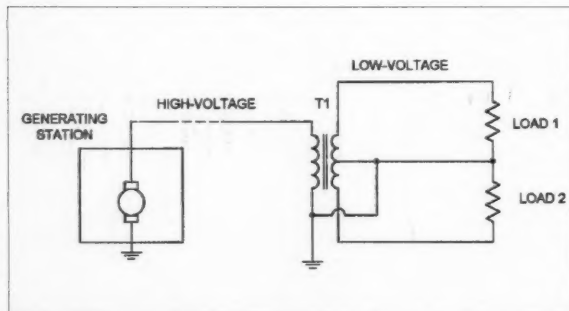

Fig. 1. North American power distribution system.
Drawing your attention to September's article "The Amateur's Guide to 'Free Energy' Devices," **Fig. 1** on page 10 is actually **Photo A** seen also on page 18. For those who caught that before we did and were wondering how the heck the generator pictured could harness ocean waves, here's what **Fig. 1** really looks like:
Fig. 1 shows the standard AC power distribution system in North America. The generating station produces high voltage AC power. It is distributed at high voltage so that the current is reduced (for any given wattage), and that makes transmission through lossy transmission lines less of a headache. It will go through a number of step-down transformers, but I've shown only the one outside your house. It will have a high-voltage primary, and a 240 volt center-tapped secondary. The center tap is grounded. If you want a 240 volt outlet, then you take the voltage across the two ends of the transformer. But if you want 120 volts, then you take the voltage from ground to either end. Two "circuits" can be served (shown as LOAD 1 and LOAD
2). Of course, in a real system there are switches, fuses, circuit breakers and a distribution box as well as the transformer shown in Fig. 1.
Fig. 1. The 74LS74 is notorious for the number of jumpers needed, and serves as a good example of how Frank KB4ZGC's idea can be implemented to avoid the "under-PC-board jumper jumble."
From J. Frank Brumbaugh KB4ZGC/W4LJD: "I've found this wiring technique to be helpful at times, so I'm passing it on to others who may want to try it. Sometimes Dual Inline Pin (DIP) chips (particularly those in the 7400 family or even the venerable NE-555) require a number of jumper connections among several of their pins to make everything operate correctly. This can result in a jumble of wires or a complicated PC board trace layout in order to accomplish the task. But here's another approach: Carefully solder very fine wires—taken from an untwisted short length of ordinary stranded hookup wire—and make some of those jumper connections right on the bottom of the chip itself. Take care to avoid any shorts, and make the connections high on the IC's "legs," but prewiring some chips like this can save a lot of under-board crosswiring later on. This jumper prewiring can be done on the IC sockets instead, before installation, if your project uses sockets instead of the chips themselves soldered directly to the board. Even if it isn't practical to prewire every jumper needed, the more you can eliminate using this technique, the neater the finished board will appear. Take a look at Fig. 1 for a couple examples of this technique."